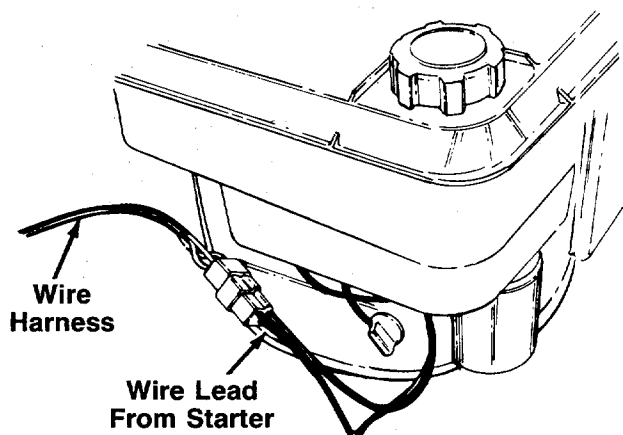

FIGURE 7.
- Plug the end of the wire lead coming from the starter on the engine into the plug on the end of the wire harness. See figure 7.